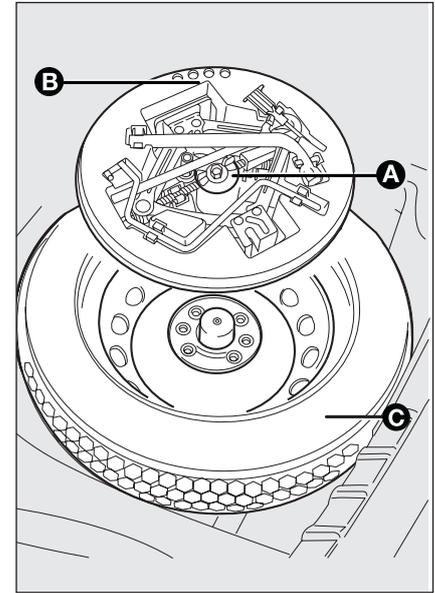

fig. 10
- loosen the fastening device **A**-fig. 10;